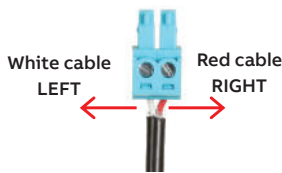

Figure 3
- Trim excess wire length as necessary while maintaining correct polarity in the connectors. **Note:** The white wire must be inserted to the left side and the red wire to the right side of the connector as shown in Figure 3.
- Verify that the current monitoring devices are secured shut and the wire connections are the correct polarity as shown in Figure 3.